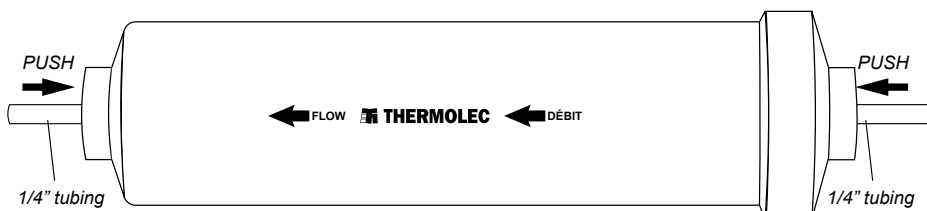

Fig. 7a
7.1 A water line filter is supplied and should be installed between the shut off valve and the water hammer absorber. It is strongly recommended to flush the supply water line for 30 seconds before connecting the filter. Simply push the tubing (plastic or copper) into the quick connect fitting until it bottoms out. Once the filter is connected it is recommended to flush the supply water through the filter for another 30 seconds (before connecting to humidifier). *We recommend replacing the filter once a year during yearly maintenance.* Please see Fig. 7a.